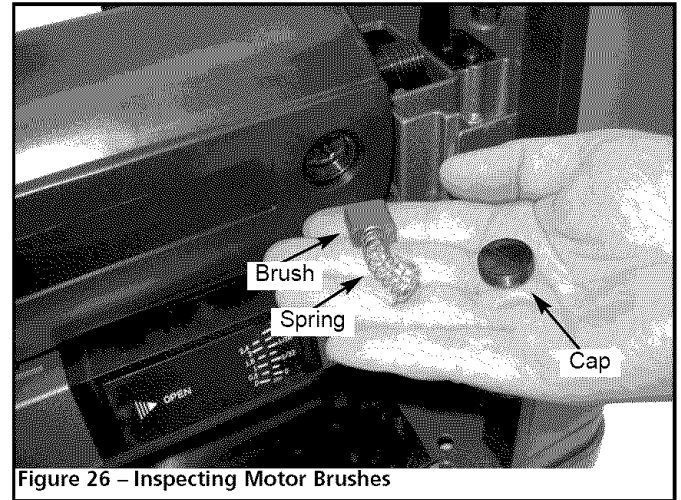

Figure 26 – Inspecting Motor Brushes
- Loosen brush cap and carefully remove brush from motor. Be careful of springs (see Figure 26).